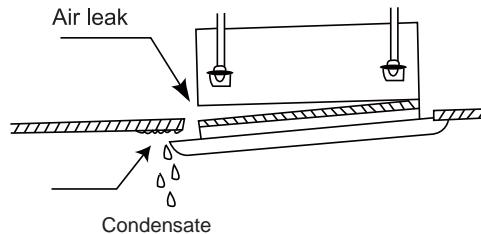

Fig.35
(2). Improper screwing of the screws may cause the troubles shown in Fig.35.